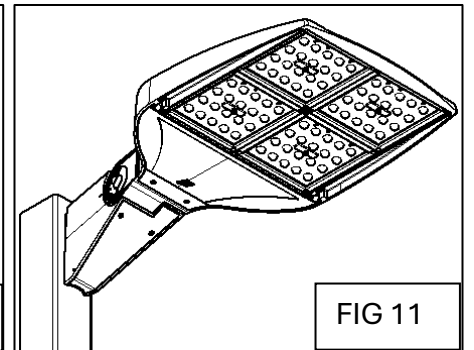

FIG 11
12. Close the access cover with O-ring, door and beauty plate and tighten the screws to 20 IN-LB (FIG 11).